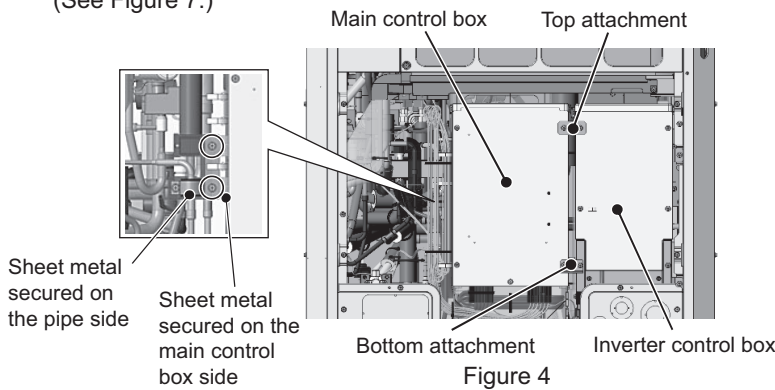

Figure 4
- (4) Remove the top attachment connecting the main control box and the inverter control box by unscrewing the two screws. (See Figure 4.)
- (5) Remove the bottom attachment connecting the main control box and the inverter control box by unscrewing the two screws. (See Figure 4.)
- (6) Remove the two screws from the sheet metal secured on the pipe on the left of the main control box. (See Figure 4.)